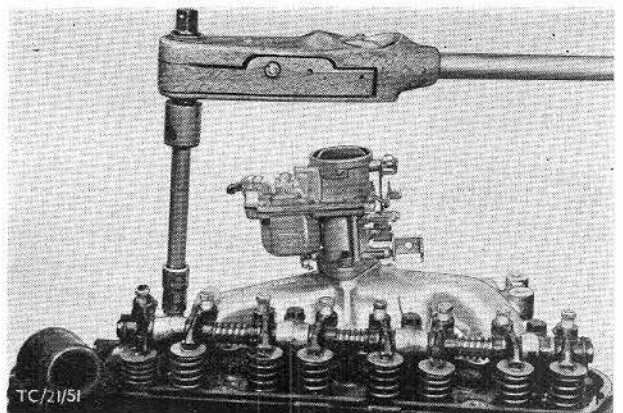

Fig. 60. Tighten rocker shaft bolts.
64. Apply engine oil to both ends of push rods and place them in push rod sockets. Place rocker shaft in position, guiding rocker lever adjusting screws into push rod sockets. Tighten rocker shaft bolts by hand, then torque them as specified in Technical Data, Fig. 60.